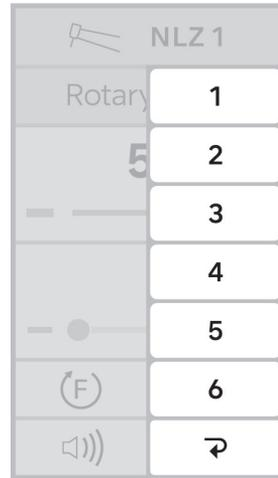

Figure 16.
1. Touch  to show all 1 to 6 program numbers (Figure 16).